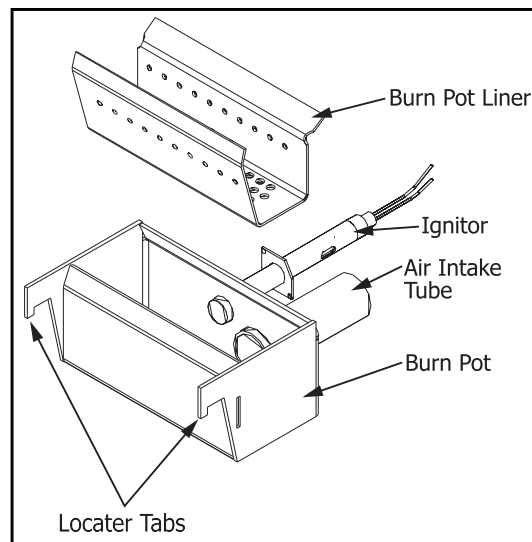

Figure 9: Burn Pot Assembly.
Cleaning of the burn pot and liner must only be done when stove is cold. To remove the burn pot and burn pot liner, open the door using the door handle provided (located on the right-hand side of the stove). Swing the door open. Lift the liner from the burn pot. Lift the burn pot from the firebox by gently lifting up the front of the burn pot, then sliding the assembly from the air intake tube and the ignitor cartridge. See figure 9.
This is the 'pot' where the pellets are burned. Every two (2) to three (3) days (when the unit is cold), remove the burn-pot liner from the stove and inspected it to ensure proper air flow through the liner. **Failure to keep the liner clean may cause a build up of fuel past the burn pot liner and up the drop tube. This will cause the auger to jam and may result in pellets burning in the drop tube and hopper.** Using a metal scraper, remove material that has accumulated or is clogging the liner's holes. Then dispose of ashes from the liner and from inside the burn-pot. Place the burn-pot back into the stove, making sure that the pipes are properly inserted into the burn pot and locator tabs (see figure 9) are properly seated in the locator holes. Place the liner back into the burn-pot, making sure that the ignitor hole in the liner is aligned with the ignitor tube. Push the liner up against the ignitor tube.